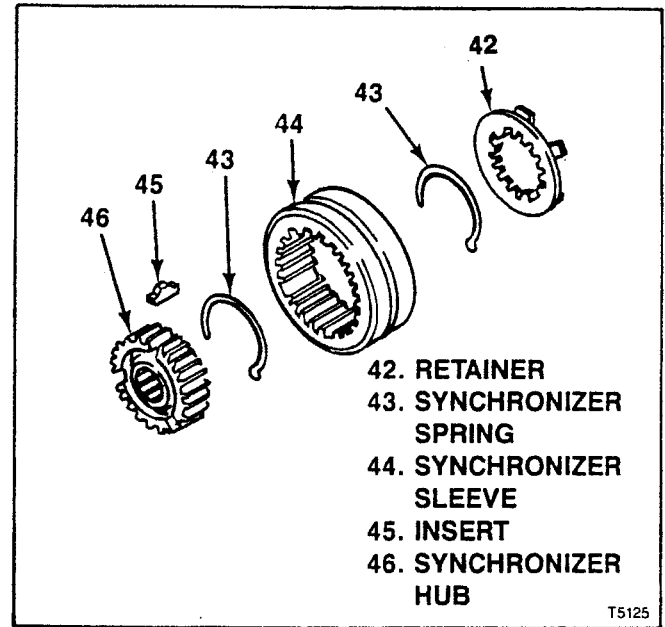
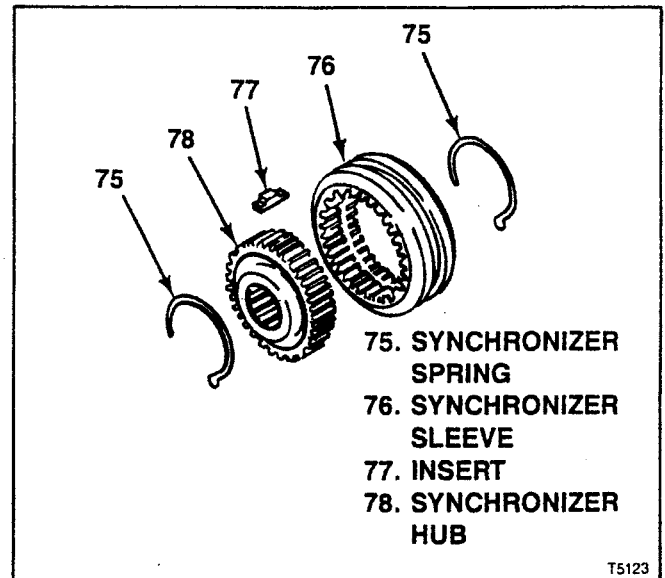

Figure 4-13. T5 NWC 5th Synchronizer Assembly
Figure 4-14. T5 NWC 3rd-4th Synchronizer Assembly
- Push countershaft gear (105) rearward to force bearing (101) and spacer (102) out of transmission case (106).
- Tilt front end of countershaft gear (105) up and remove from top of transmission case (106).
- Press bearing (103) from transmission case (106). Remove thrust washer (104).
4-19. DISASSEMBLY OF T5 NWC 5TH SYNCHRONIZER ASSEMBLY. Mark synchronizer sleeve (44) and hub (46) so that clutch teeth and faces can be assembled exactly as they were originally. Sleeve and hub are a matched set, selected at manufacture. Disassemble as follows (see figure 4-13):
- Remove retainer (42).
- Unhook and remove springs (43).
- Slide sleeve (44) from hub (46), freeing inserts (45).
4-20. DISASSEMBLY OF T5 NWC 3RD-4TH SYNCHRONIZER ASSEMBLY Mark synchronizer sleeve (76) and hub (78) so that clutch teeth and faces can be assembled exactly as they were originally. Sleeve and hub are a matched set, selected at manufacture. Disassemble as follows (see figure 4-14):
- Unhook and remove springs (75).
- Slide sleeve (76) from hub (78), freeing inserts (77).